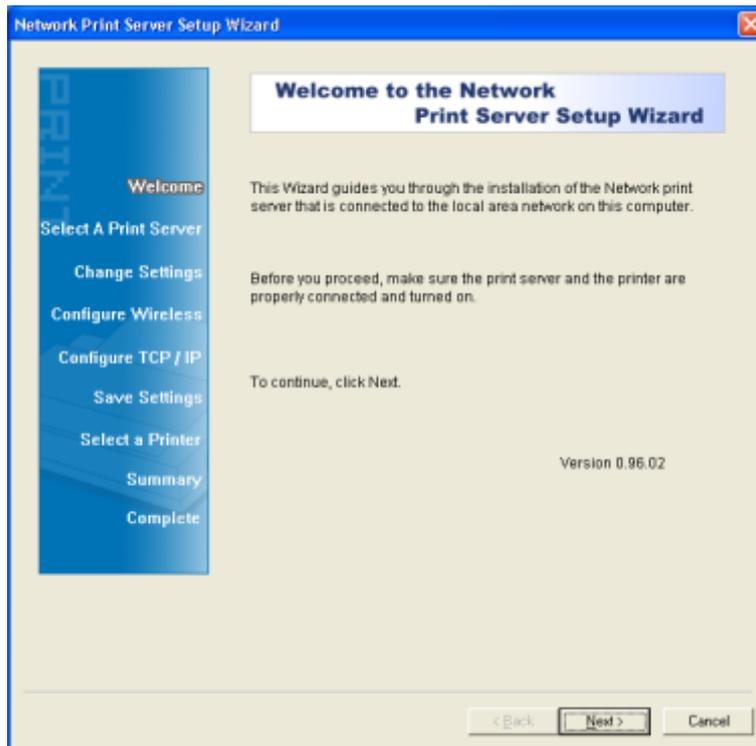

Figure 3-3
- Then you will enter to the “Welcome” page as shown in Figure 3-3. Click **Next**.